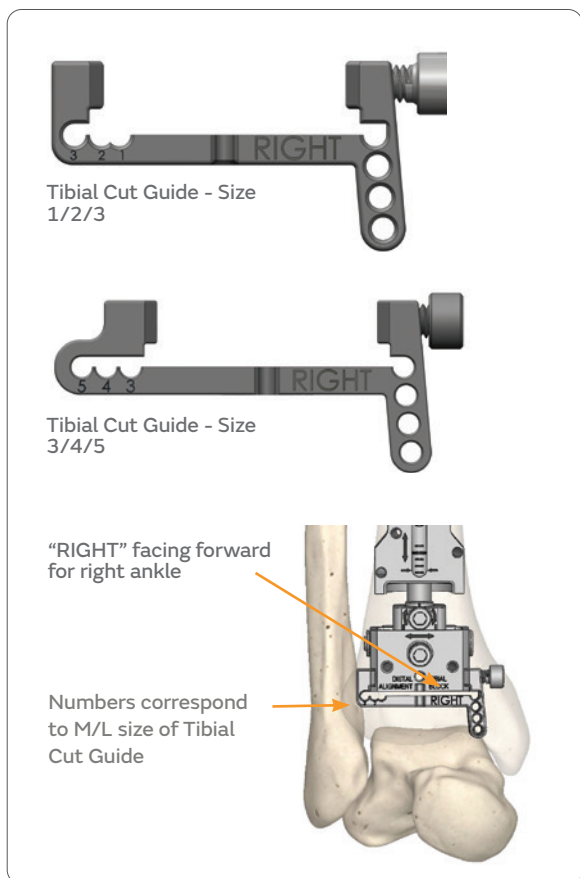

Figure 20
Depending on the size of the tibia, select either the Size 1/2/3 Tibial Cut Guide or the Size 3/4/5 Tibial Cut Guide. **(Figure 20)**
**(Figure 20)**